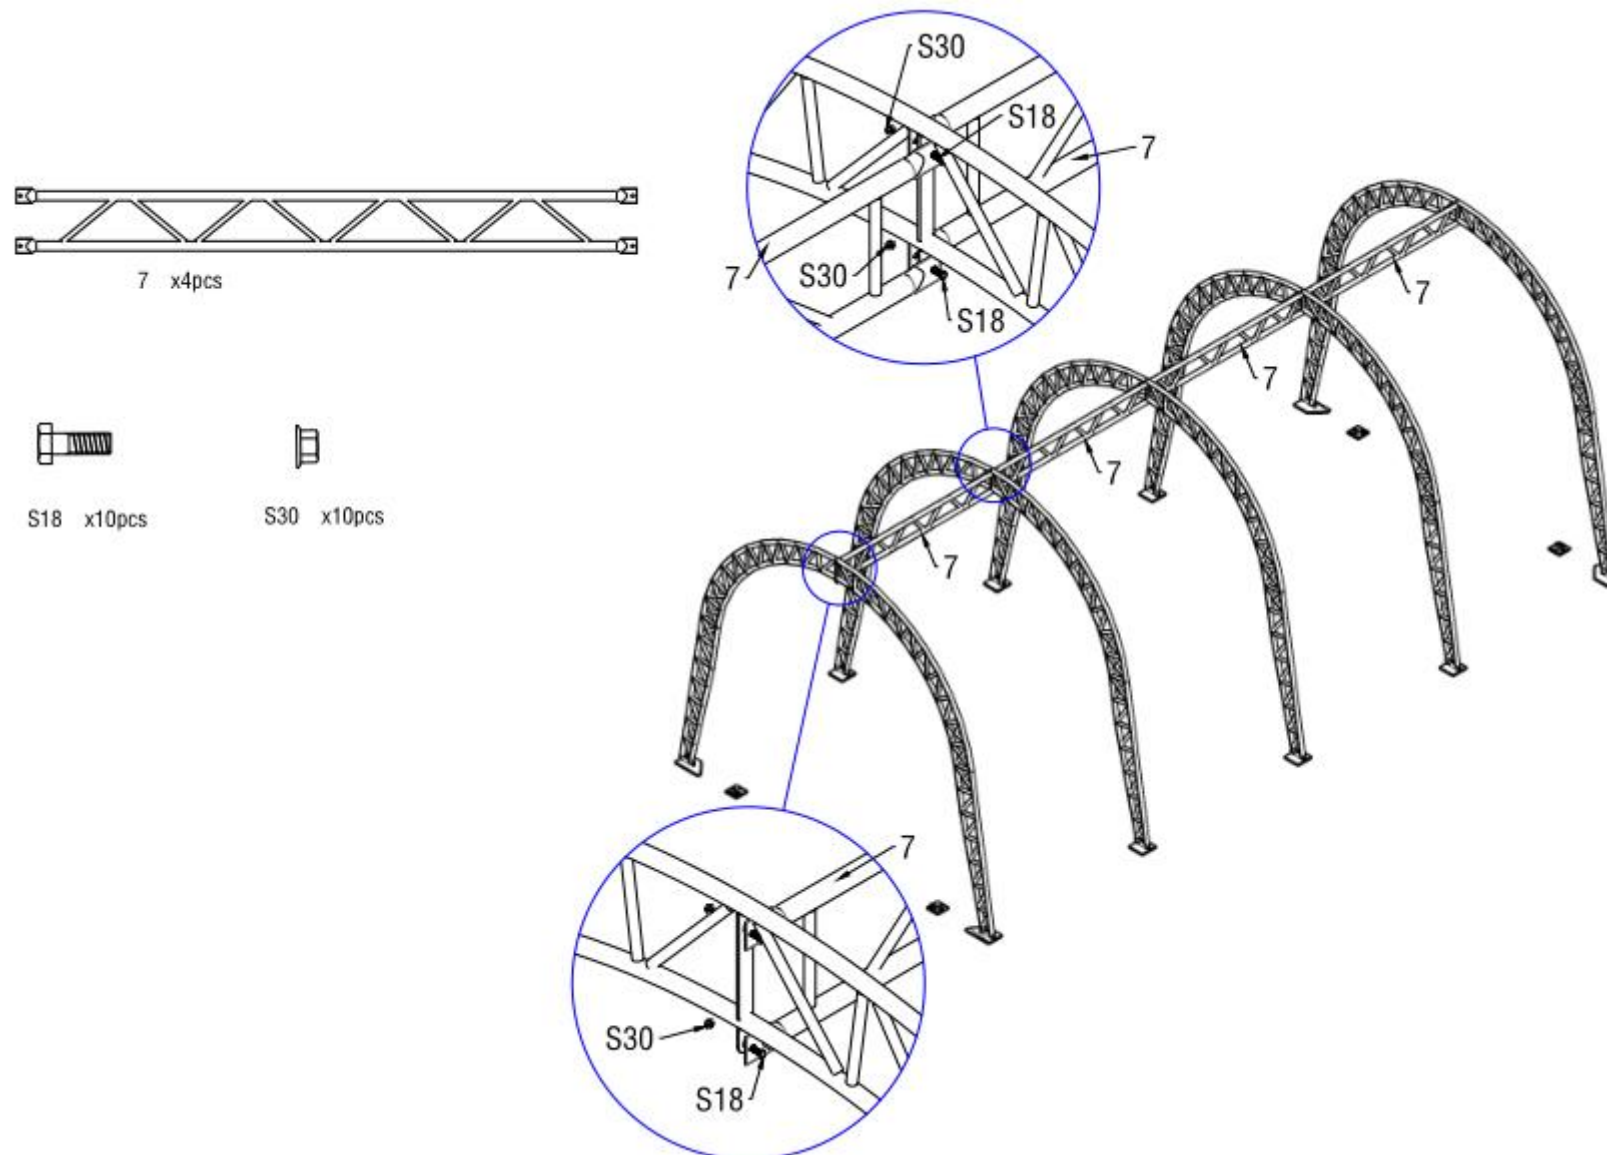

Figure 7
4. Above Figure 7 shown when finish installing all the arches into the base plates, use Double Trussed Purlins (No.7) to connect them by Screw M10x30 (No.S18) . Then use Purlins(No.8) to connect the arches by Screw M10X30 (No.18). In this turn, fix all other purlins. Finished stretch frame as below(Figure 8)